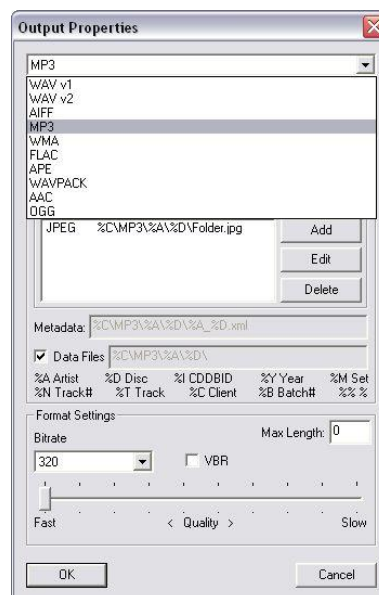

Figure 3.16– New Output Dialog
- To add a new codec, click the **[Add]** button in the Batch Properties dialog box. The New Output dialog will appear as in figure 3.16